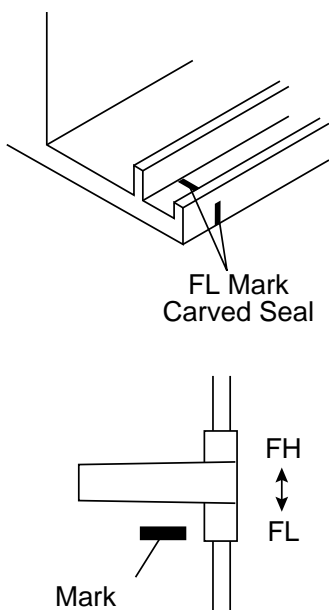

Figure 5-1
2. Remove the hooks (A2) x 2 pcs., toward the center position as shown in Fig. 5-1. and then extract the erase head upward.